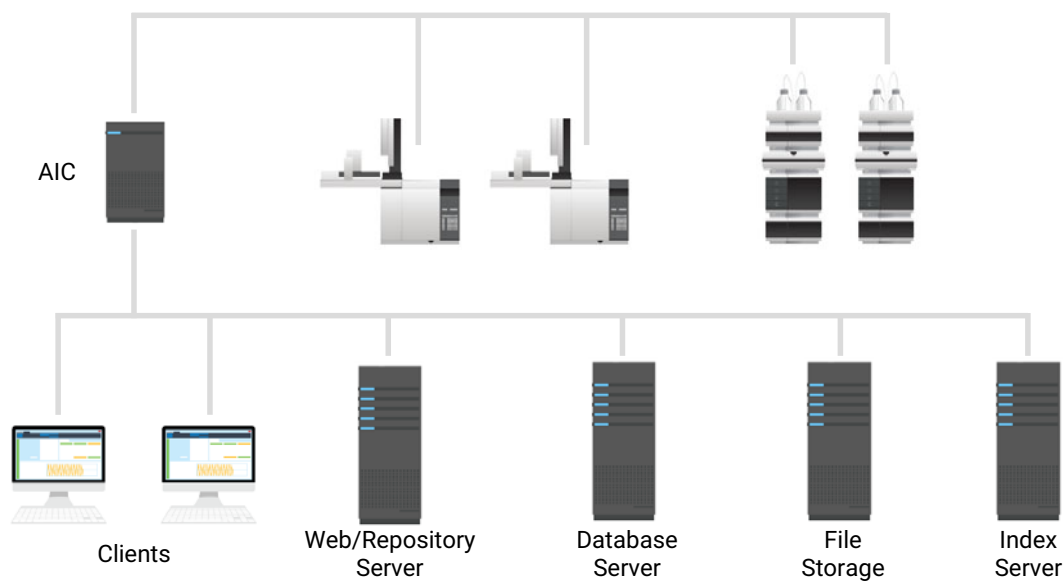

Figure 4 4-Server topology: For high-load environments with multiple AICs
- ✓ 4-server system (see Figure 4 on page 12)